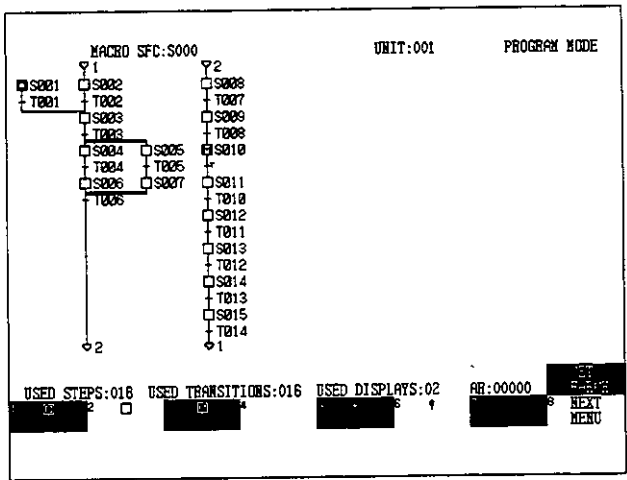

Figure 7.122
- 1) Display the SFC Screen shown in *Figure 7.122*.
- 2) Enter step number S040 in the AR and press the Enter Key. (See Note (3))
3) Select the Find Element label . (See Note (4))